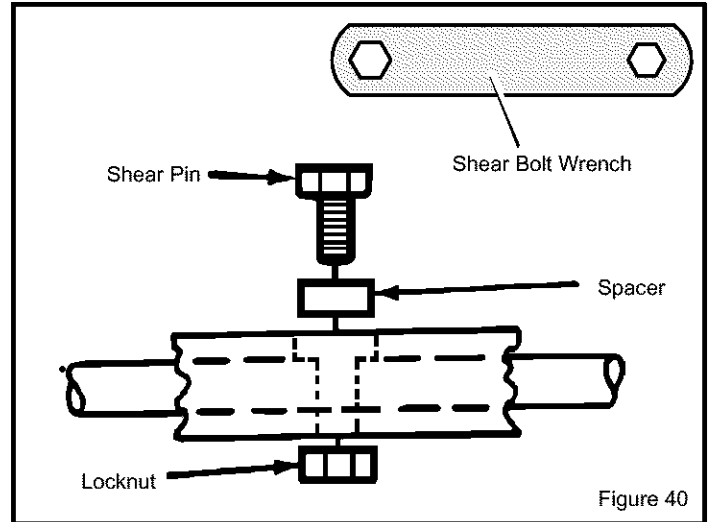

Figure 40
3. Align the hole in the auger with the hole in the auger shaft. Install new shear bolt, spacer and locknut found in the toolbox located on the belt cover (See Figure 40). Tighten with the shear bolt wrench.